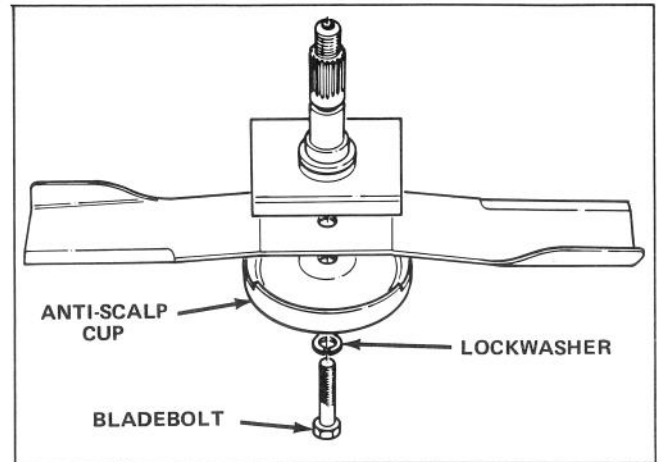

Figure 18
2. Grasp end of blade using a rag or thickly padded glove. Remove bladebolt, lockwasher, anti-scalp cup and blade from spindle shaft (Fig. 18).